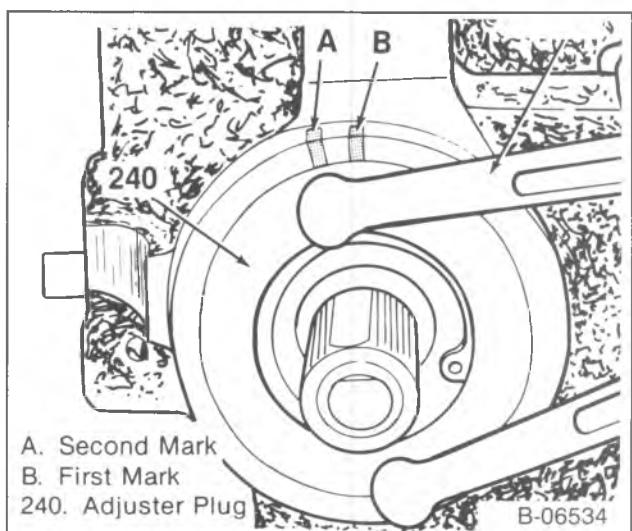

Figure 19—Aligning the Adjuster Hole with the Second Mark
- Rotate the adjuster to the left until the hole in the adjuster is in line with the second mark (figure 19).